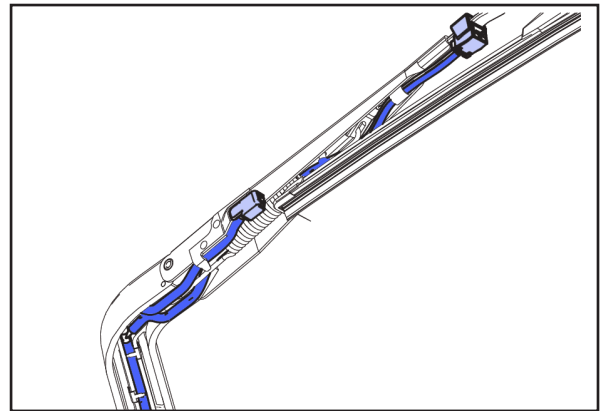

fig.7b
- d. disconnect hose. (note routing for easier install) (fig. 7b)